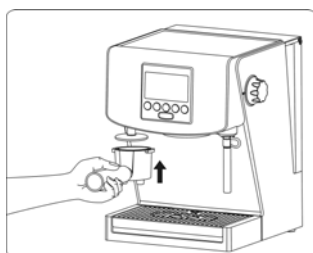

Fig. 4
- 11.9. Remove the excess of coffee from the edge of the filter and compress the coffee by the permanent coffee compressor (5) or the whip of the measuring cup (13) (Fig. 4).
- 12.9. Remove the excess of coffee from the edge of the filter and compress the coffee by the permanent coffee compressor (5) or the whip of the measuring cup (13) (Fig. 4).
- 13.9. Remove the excess of coffee from the edge of the filter and compress the coffee by the permanent coffee compressor (5) or the whip of the measuring cup (13) (**Fig. 4**).